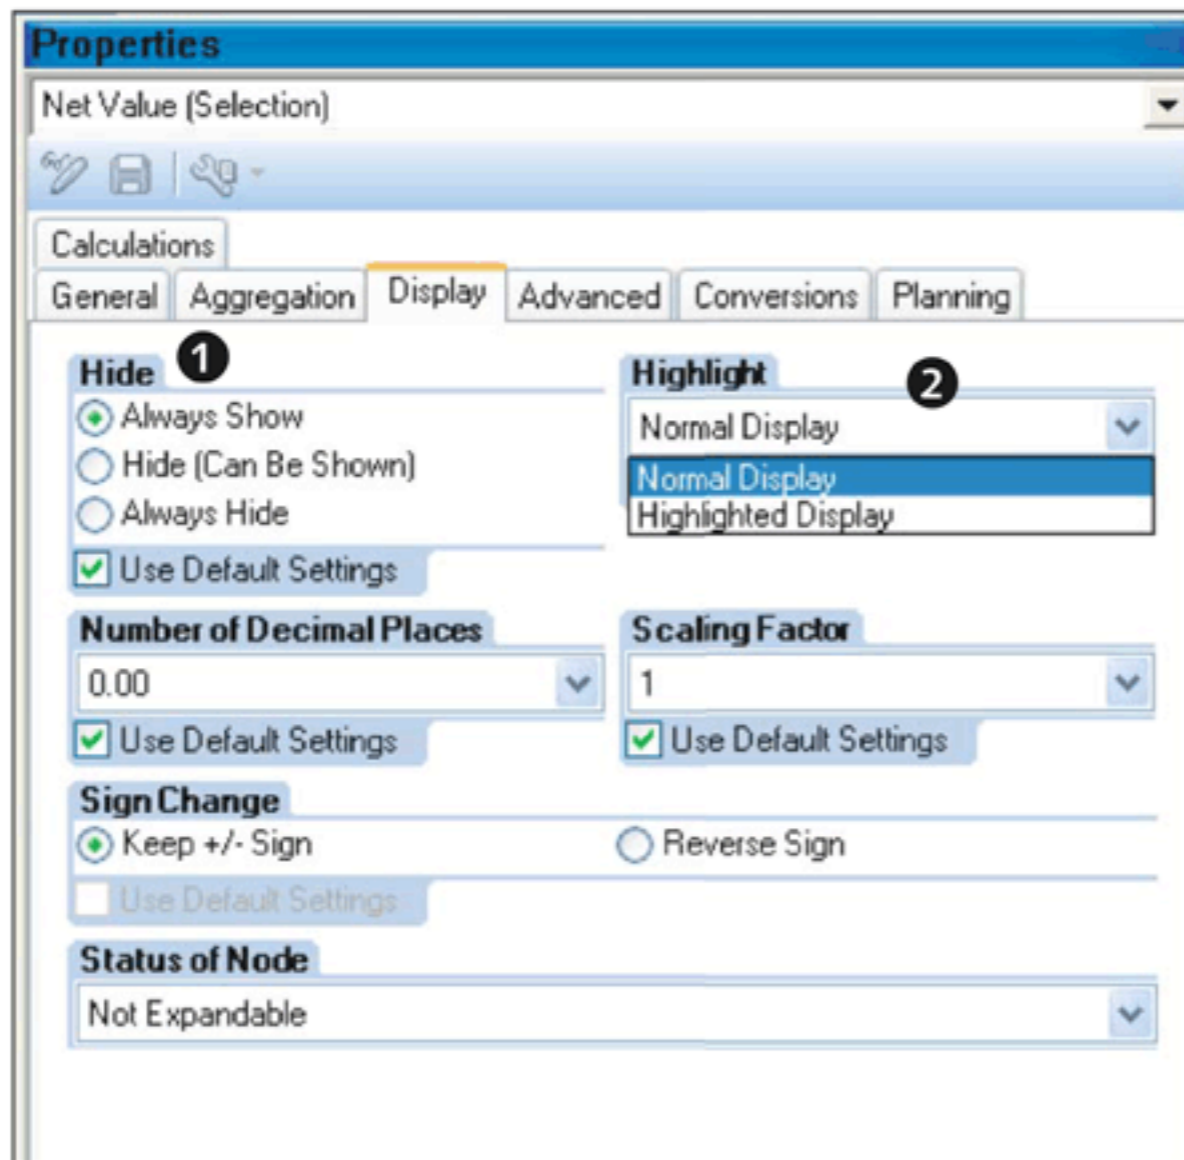

Figure 9.73 Key Figure Properties: Display Tab
On the DISPLAY tab of the properties, you have different options available to control the display of the key figure value in the query output (see Figure 9.73).
Use the settings under the HIDE section (1 of Figure 9.73) if you want to hide the key figure in the output. There is also an option available to highlight the key figure value under the HIGHLIGHT section (2). Additional settings related to the